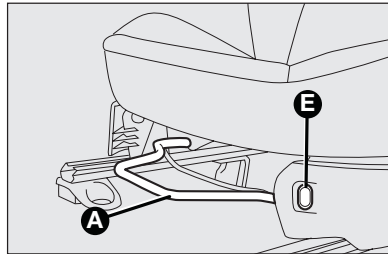

fig. 17
Fore/aft adjustment fig. 17
Heated seats fig. 17 (where provided)
ATTENTION Using lever **D** before locking the seat in its original position causes the original seat position to be lost. In this case, adjust the seat position by means of the reach adjustment **fig. 17**.
To return the seat to its initial position, slide the seat back and press on the backrest to lock the seat (movement ④) operate lever **D** (movement ⑤) and raise the backrest (movement ⑥) until it clicks home. Adjust reach using lever **A**-**fig. 17**.